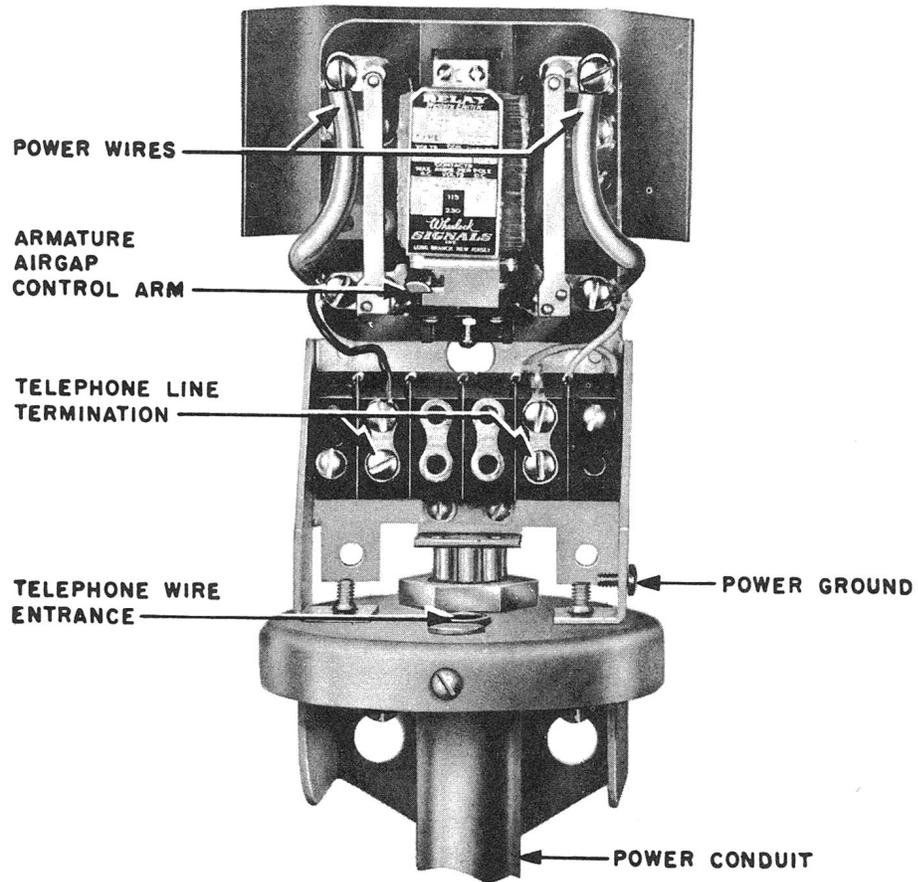

Fig. 5 — KS-16626, List 1 Relay Set, Cover Removed
3.05 Entrance holes are provided in base of set for telephone and power wiring. Terminate telephone wires on connecting block as shown in Fig. 5.
3.06 The customer shall arrange to have commercial power wiring terminated on relay set as shown in Fig. 5. Power connections are shown on circuit diagram in C Section entitled Auxiliary Signals, Connections.
3.07 Relay set framework shall be connected to power system ground in accordance with the National Electrical Code and any local regulations that may apply. A power ground screw terminal is provided for this purpose (see Fig. 5).
3.08 The armature airgap of relays operated by ringing current may be adjusted by a 2-position control arm as shown in Fig. 5. Control arm pivots to the right engaging the notch for minimum airgap and to the left for maximum airgap. Use wide airgap for dial areas and close airgap for long loops or manual areas.